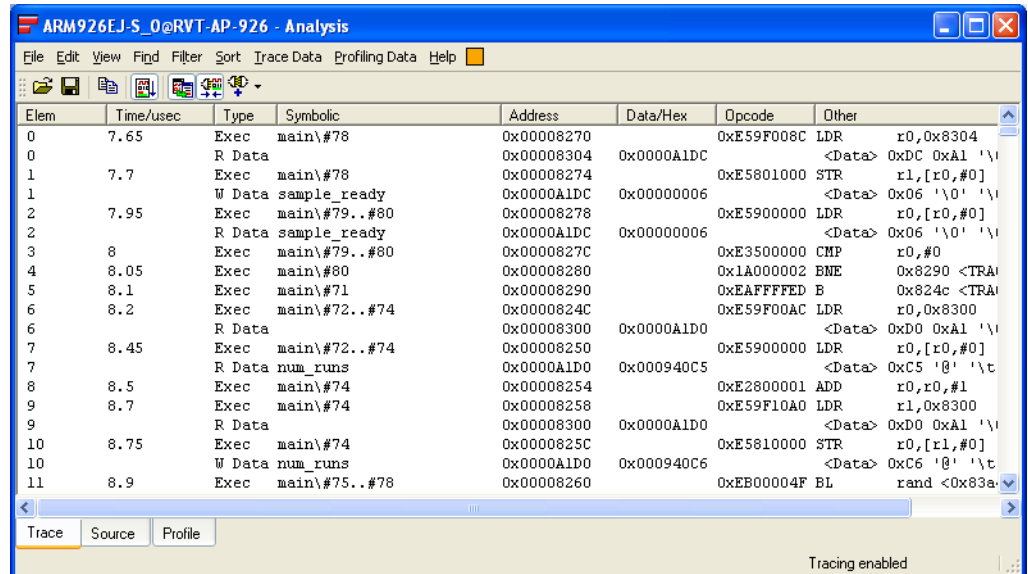

Figure 10-45 Data/Hex column displayed in the Analysis window
9. Select **Data Value in Hex** from the **Trace Data** menu in the Analysis window to display the Data/Hex column. You might have to scroll down again to see the start of main. Figure 10-45 shows an example: